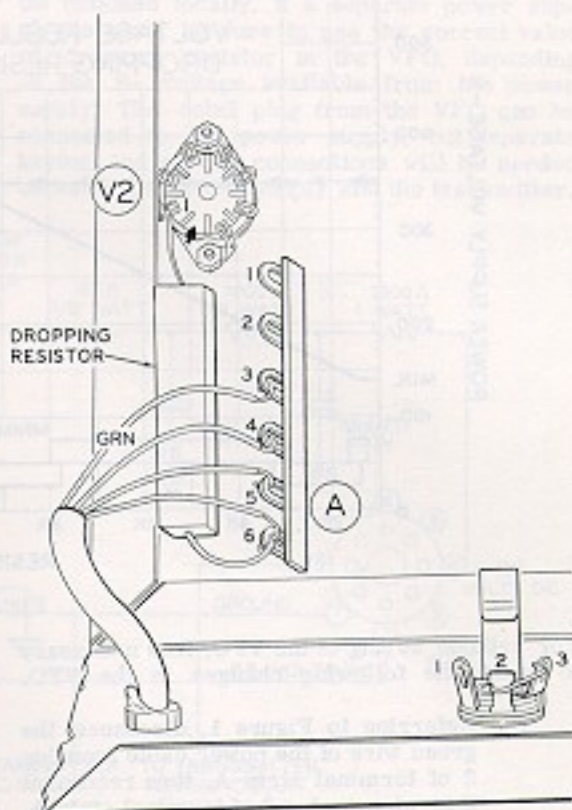
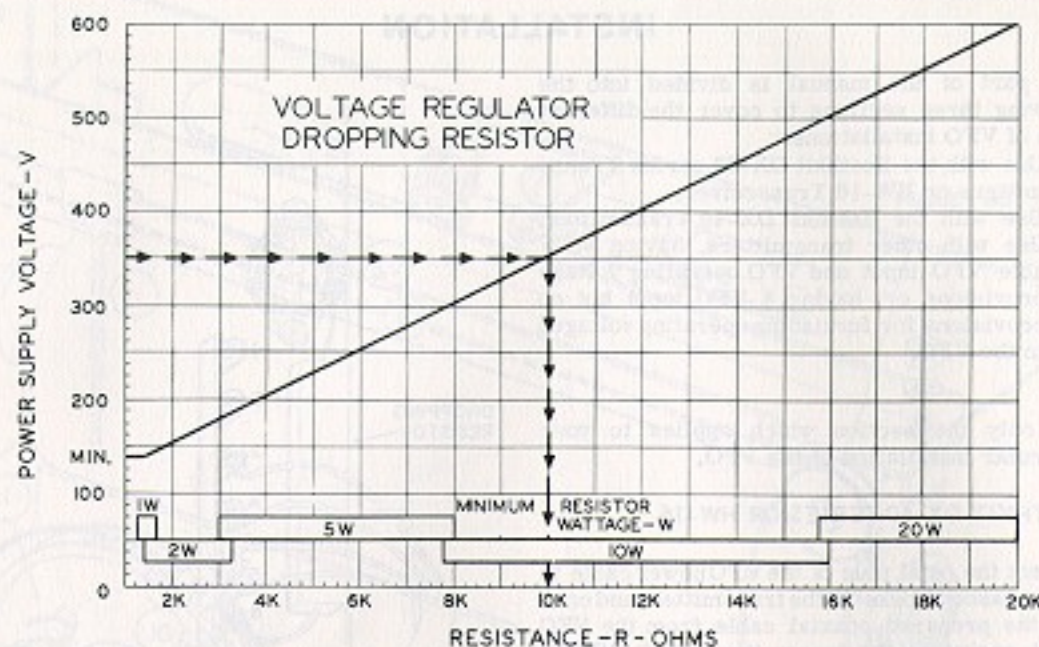

Figure 1
Figure 2
- () Disconnect the green wire of the power cable from lug 2 of terminal strip A, then reconnect this wire to lug 3 of terminal strip A. See Figure 1.
- () Clip out the bare wire connected between lugs 2 and 3 of the KEY jack. See Figure 1.
- () Referring to Figure 1, disconnect the green wire of the power cable from lug 2 of terminal strip A, then reconnect this wire to lug 3 of terminal strip A.
The value of the B+ voltage applied to the voltage regulator tube in the VFO is critical. For this reason, the value of the Dropping Resistor in series with the VR tube must be chosen to provide the correct voltage. The chart in Figure 2 should be used to determine the correct resistance and wattage of the Dropping Resistor. For example: If the B+ available from the transmitter is 350 volts, draw a line from the
350 volt point on the vertical scale across to the diagonal line of the graph. Then draw a line down from the point of intersection, to the horizontal scale. The point at which this line crosses the horizontal scale indicates the resistance value and wattage for the Dropping Resistor. This example is shown by the line of arrows on Figure 2. Do not use smaller resistance or wattage values. The correct Dropping Resistor should be installed in the VFO as shown in Figure 1. The 10K Ω , 10 watt resistor, already in the VFO, should be removed. Figure 3 shows the VR tube and Dropping Resistor schematically.